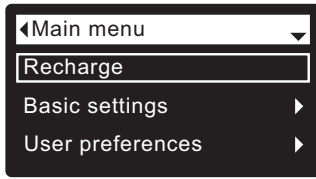

FIG. 33
During normal operation (status screens rolling), press the filter’s SELECT (O) button to display the Main menu (See Figure 33). This menu and its subsidiary screens are used to control these operations: